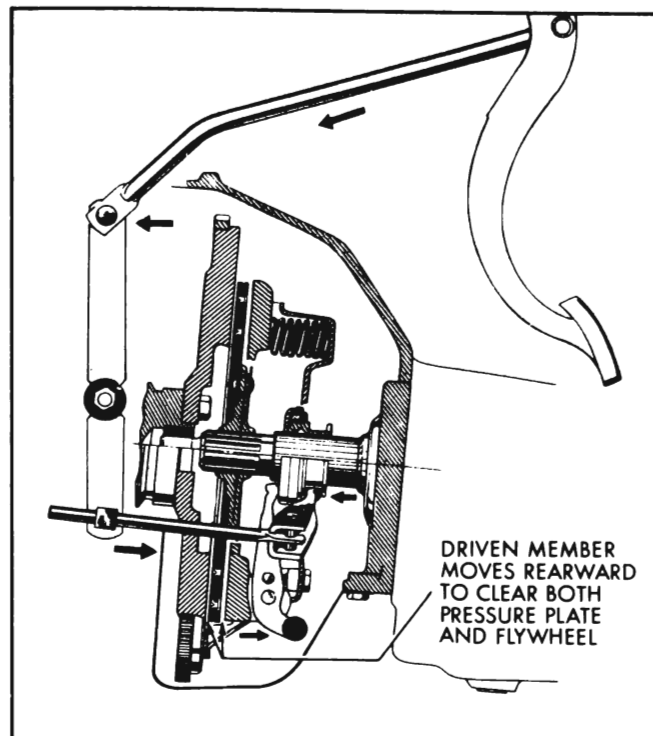

Figure 4-4—Clutch Releasing Action
A pedal rod extends through the cowl to connect the pedal to the clutch release equalizer. The equalizer pivots between the engine at one end and the frame at the other. The clutch release rod and adjusting swivel extends from the equalizer to the clutch release fork. See Figure 4-4.
It is very important to maintain pedal lash at all times. Insufficient pedal lash will cause the throw-out bearing to ride against the release levers all of the time, resulting in abnormal wear of these parts. It may also cause clutch slippage and abnormal wear of the driven plate, flywheel, and pressure plate if pressure on the release levers is enough to prevent positive engagement of the clutch. See Figure 4-4.
1. Make certain that clutch pedal returns firmly against pedal bumper when pedal is released. If pedal does not contact bumper, check pedal and linkage for binding or lack of lubrication. See Figure 4-4.